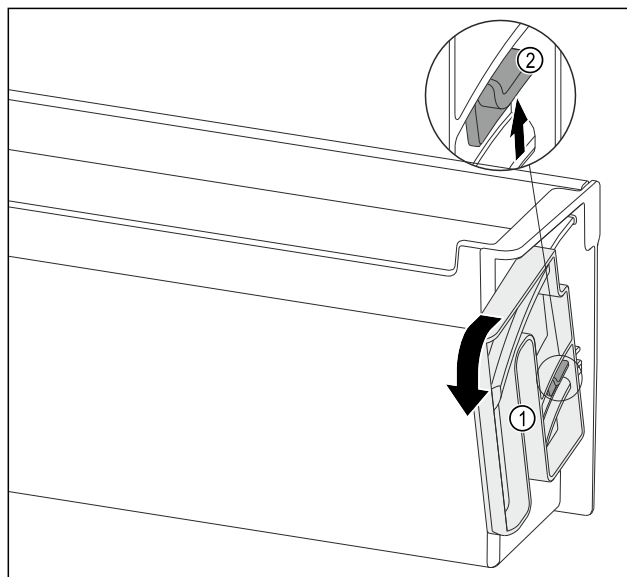

Fig. 134
- ▶ Turn the turning unit *Fig. 134 (1)* in the specified direction to the end stop.
- ▶ Press the tab *Fig. 134 (2)* up and remove the turning unit *Fig. 134 (1)*.